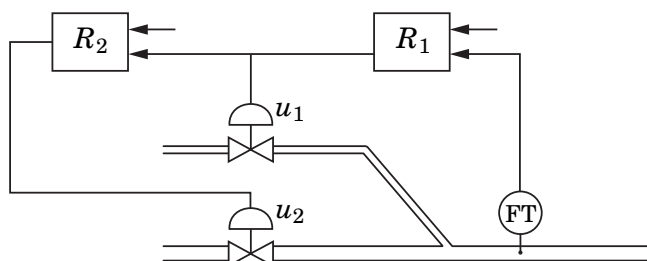

Figure 10.3 Mid-range control of a steam flow.
- 10.3** Figure 10.3 shows a process where mid-range control is used to regulate a steam flow. The relationship between the control signals u_1 and u_2 and the steam flow y is given by the relationship